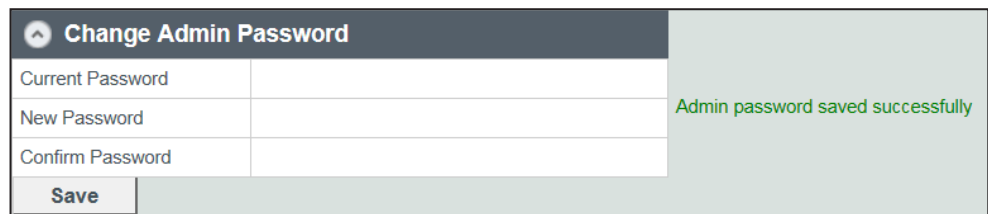

Figure 9. Click on the “Save” button. A confirmation message will display.
STEP 5. Click on the **Save** button directly under the “Change Admin Password” section. A message that the password has been saved successfully will open. See Figure 9.